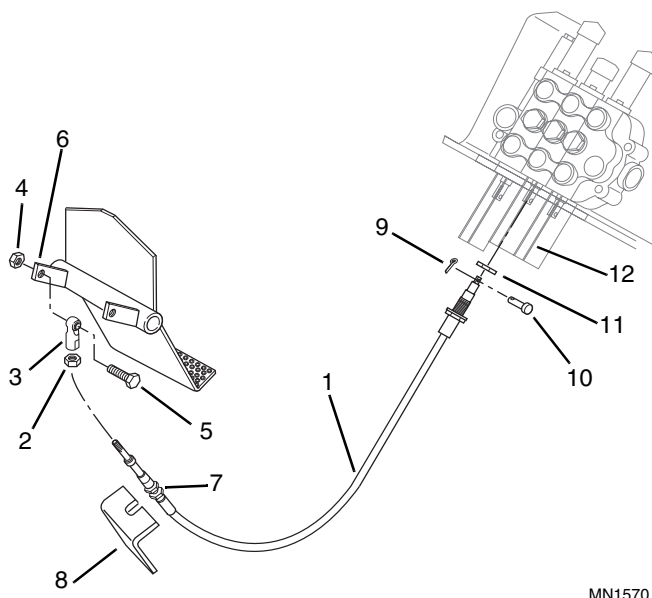

Figure 7-53 Foot Pedal Cable (Right Side Shown)
4. To remove the foot pedal control cable (Fig. 7-53, 1) from the vehicle, loosen the hex jam nut (2) below the ball joint (3), and remove the elastic locknut (4) and cap screw (5) connecting the ball joint (3) to the foot pedal (6). Remove the ball joint (3) and hex jam nut (2) from the cable.
5. Loosen the hex jam nut (Fig. 7-53, 7) and remove the cable (1) from its anchor bracket (8).
9. Disconnect the opposite end of the control cable by removing the cotter pin (Fig. 7-53, 9) and clevis pin (10) from the cable end and valve spool.
10. Loosen and remove nut (Fig. 7-53, 11) and remove the cable from control valve strap adapter (12).
11. Remove the cable (Fig. 7-53, 1) from the vehicle.